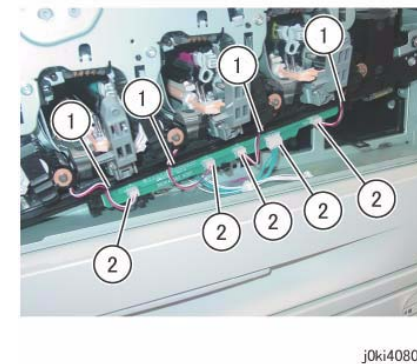

Figure 4 Disconnect the connectors
8. Disconnect the connectors of the ATC PWB Assembly. (Figure 4)